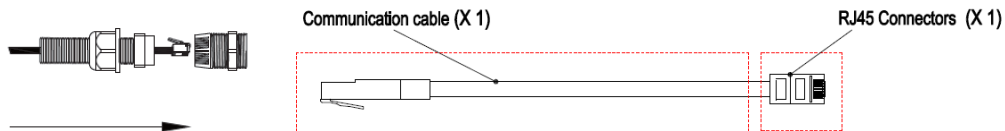

Figure 28 Connection of the Communication Cables on the Inverter Side
Step 18: Please pass the cable through the waterproof cap, the sealing ring and the joint on the baffle, and then connect with an RJ45 connector, see Figure 28.